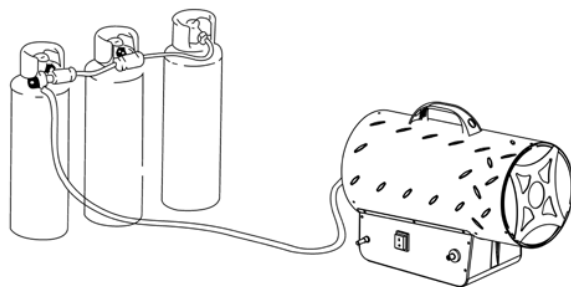

Figure 1
- 1.9.** If the heater has to work for a long period at its maximum capacity, it's possible that ice will form on the cylinder. This is due to excessive vapour withdrawal. Not for this reason, or for any other, should the cylinder be heated. To avoid this effect, or at least to reduce it, use a large cylinder or two cylinders linked together (Figure1).